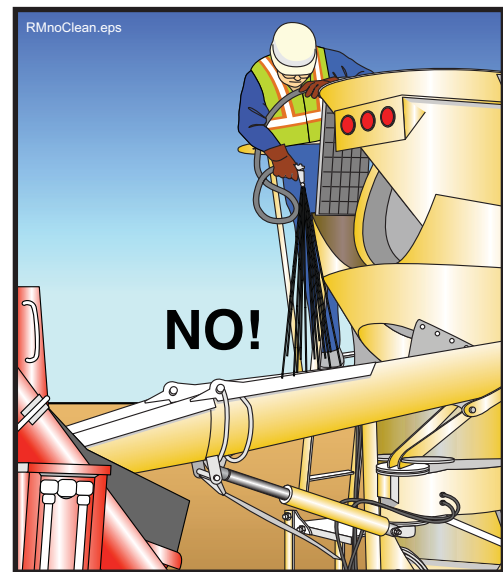

Figure 51
- a. If the concrete is too wet, the cement and fine material get washed from the stone and coarse sand. This mix will not pump. It is for this reason that you should cover the hopper as you wait out a passing storm, never allow a truck mixer to wash out in your hopper, and never add water to the mix. (Figure 51.)